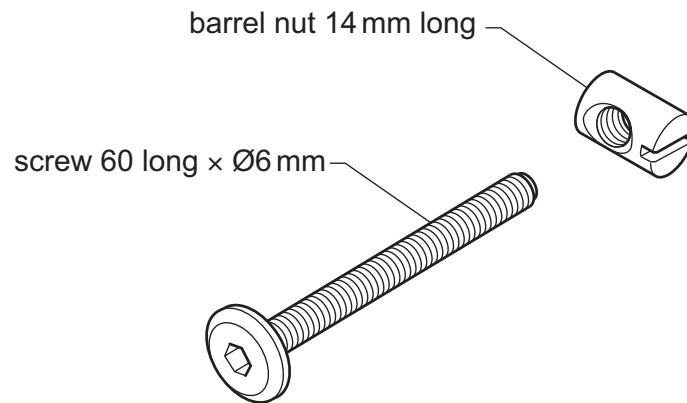

Fig. 11.3
- (e) Fig. 11.3 shows the scan fitting that will be used to join the collar to the drill rack when the collar is fitted around the pillar of the pillar drill.